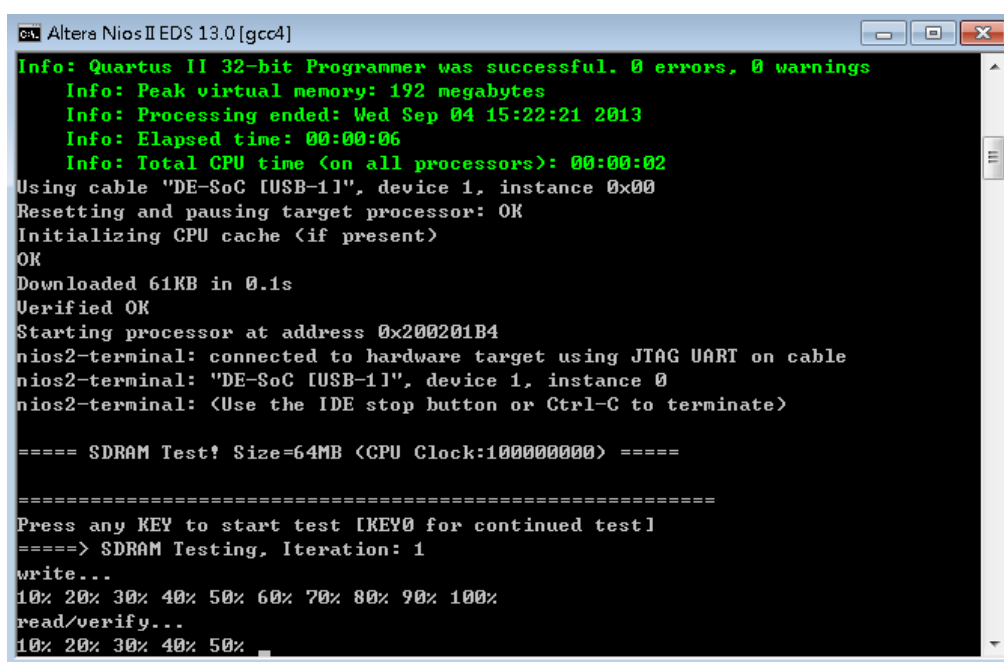

Figure 5-7 Display Progress and Result Information for the SDRAM Demonstration
- The program will display progressing and result information, as shown in **Figure 5-7**.